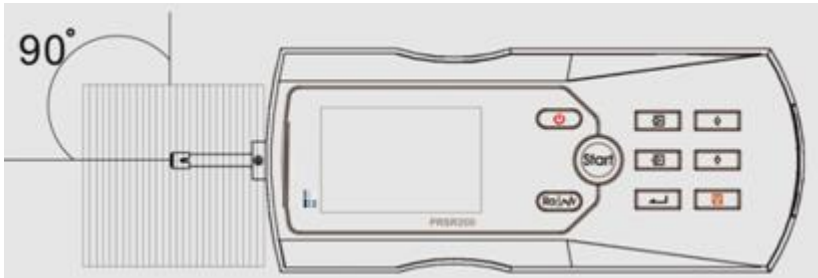

Figure 2-3 Measuring Direction
d. Refer to Figure 2-3, trace of the pickup must be vertical to the direction of process line of the measured surface.